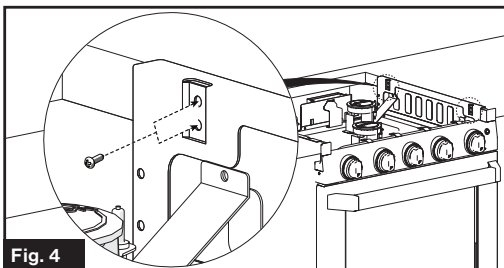

Fig. 4
5. Fix the range oven in the cabinet opening on both left and right using four self-tapping screws on both left and right (2 screws each side). (Fig. 4)